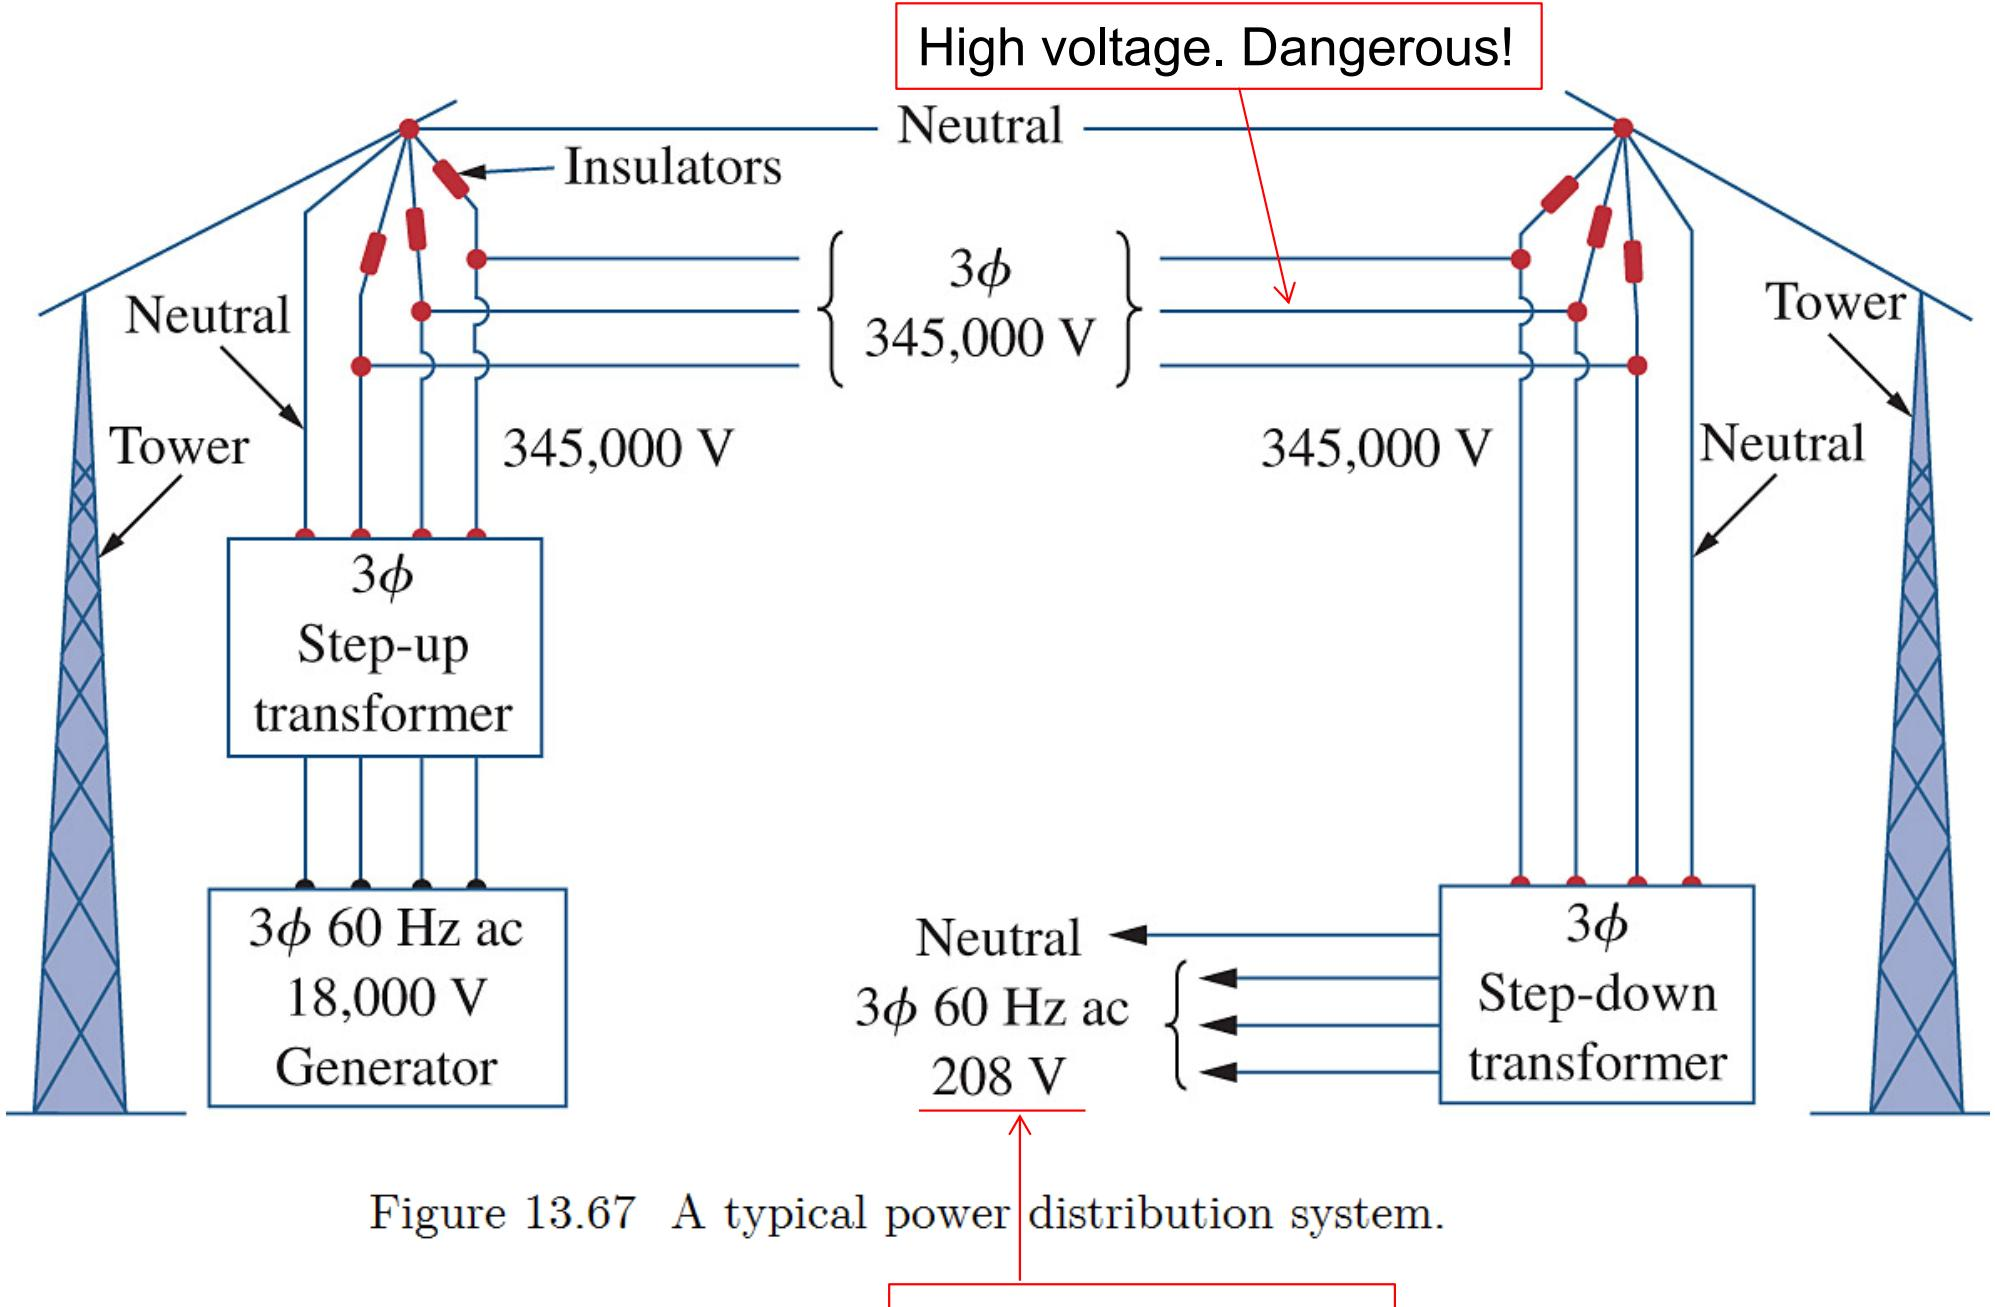

Figure 13.67 A typical power distribution system.
**Power Distribution** As shown in Fig. 13.67, a power system basically consists of three components: generation, transmission, and distribution.